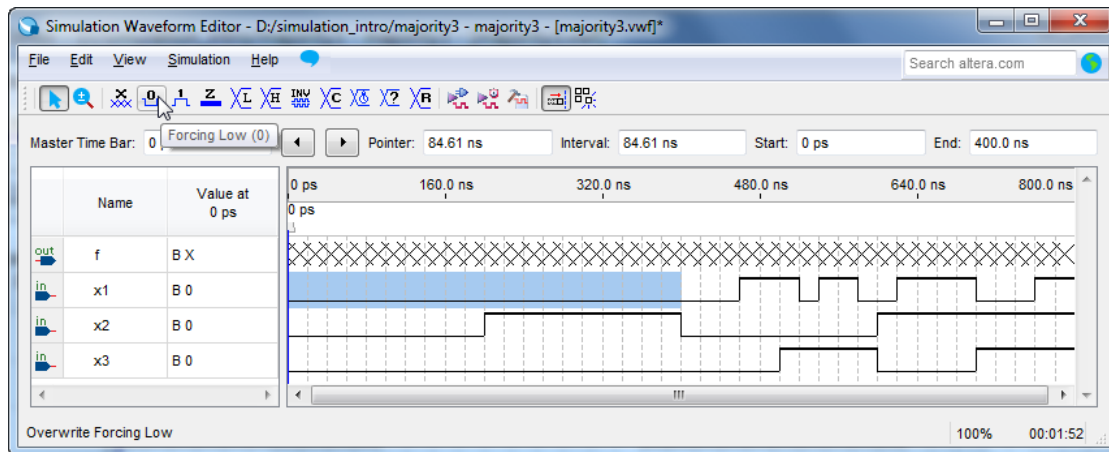

Figure 4. Forcing x_1 to be low from 0 to 400 ns.
These tools are used to force the selected part of a waveform to the value low (0) or high (1), as shown in Figures 4 and 5, respectively.